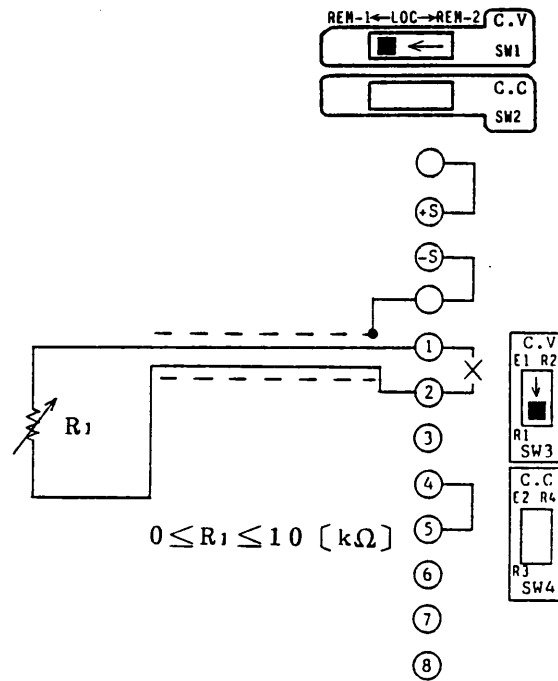

Figure 4-5
- (8) Regarding the switches for which no settings are specified in Figure 4-5, set them to the standard states as shown in Figure 2-19 (See Section 2.4.) or to appropriate states for respective modes (See Sections 4.1 through 4.11.).